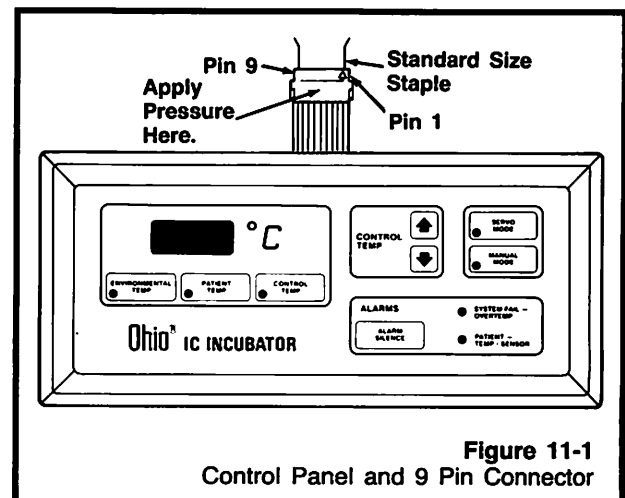

Figure 11-1
5. Position the display panel and 9 pin connector on the static control work station as shown in Figure 11-1.
6. Use a standard size staple (must not be larger than connector pins) and place it in pin 1 of the connector (Figure 11-1).